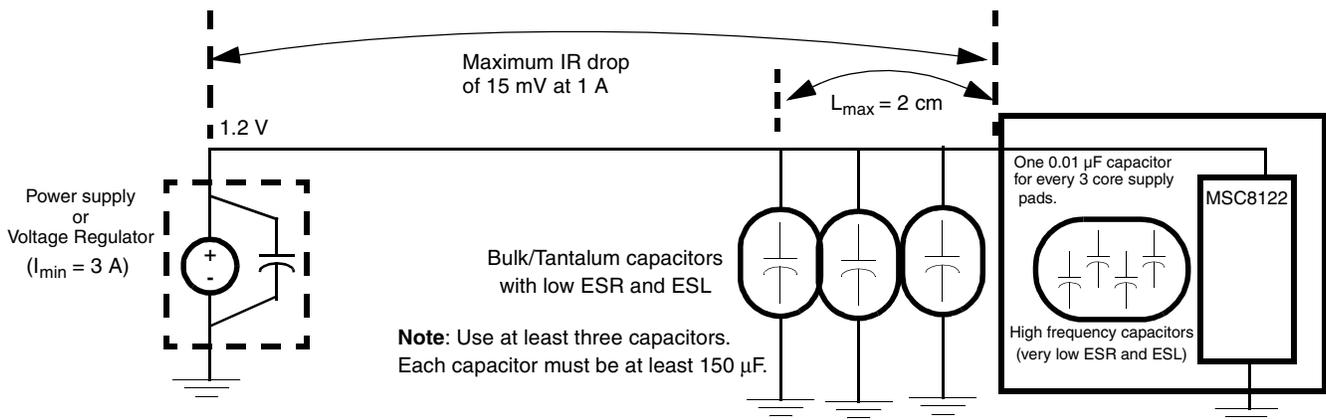

Figure 4-1. Core Power Supply Decoupling
Figure 4-1 shows the recommended power decoupling circuit for the core power supply. The voltage regulator and the decoupling capacitors should supply the required device current without any drop in voltage on the device pins. The voltage on the package pins should not drop below the minimum specified voltage level even for a very short spikes. This can be achieved by using the following guidelines:
- Decouple the supply using low-ESR capacitors mounted as close as possible to the socket. **Figure 4-1** shows three capacitors in parallel to reduce the resistance. Three capacitors is a recommended minimum number. If possible, mount at least one of the capacitors directly below the MSC8122 device.